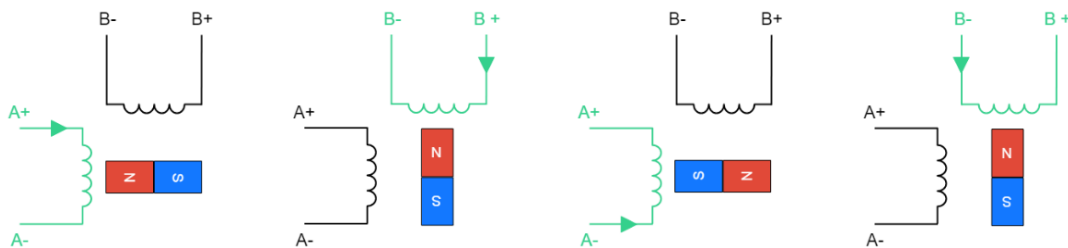

Figure 11: Wave Mode Steps
- In wave mode, only one phase at a time is energized (see Figure 11). For simplicity, we will say that the current is flowing in a positive direction if it is going from the + lead to the - lead of a phase (e.g. from A+ to A-); otherwise, the direction is negative. Starting from the left, the current is flowing only in phase A in the positive direction and the rotor, represented by a magnet, is aligned with the magnetic field generated by it. In the next step, it flows only in phase B in the positive direction, and the rotor spins 90° clockwise to align with the magnetic field generated by phase B. Later, phase A is energized again, but the current flows in the negative direction, and the rotor spins again by 90°. In the last step, the current flows negatively in phase B and the rotor spins again by 90°.